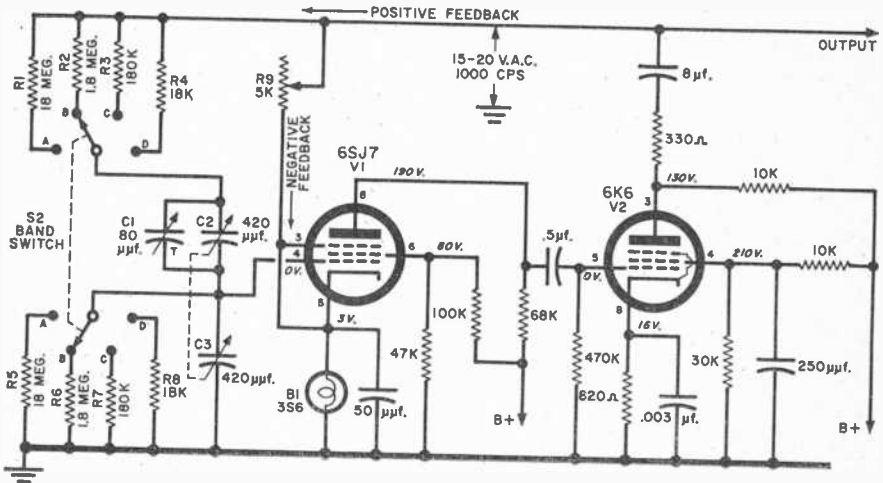
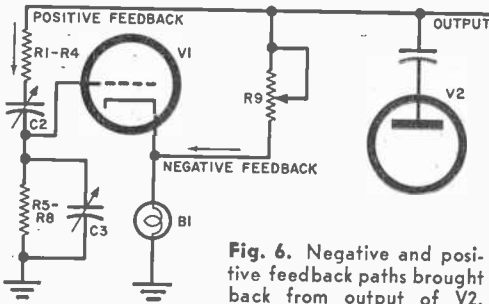

Fig. 5. Wien bridge section of the EICO audio generator.
Fig. 6. Negative and positive feedback paths brought back from output of  $V2$ .
The Wien bridge portion of the Model 377 is shown in Fig. 5. Probably the first thing that will strike you is how much more complicated this schematic appears than the circuit of Fig. 3. There are several reasons for this complexity aside from the fact that pentodes are used instead of the triodes shown in our theoretical circuits.
The eight resistors and three variable capacitors grouped around bandswitch  $S2$  (at the left of the schematic) are all part of the frequency-determining network. Resistors  $R1$  to  $R4$  in Fig. 5 correspond to  $R1$  in Fig. 3, and variable capacitor  $C2$  in Fig. 5 corresponds to  $C1$  in Fig. 3. By the same token,  $R5$  to  $R8$  corresponds to  $R2$ , and
$C3$  corresponds to  $C2$ . Trimmer capacitor  $C1$  in Fig. 5 has the job of adjusting for any differences in capacity that may exist between the sections of the two-gang capacitor  $C2/C3$ .
**Negative Feedback and AGC.** Two other components in Fig. 5 deserve special mention. Potentiometer  $R9$ , which is connected from the feedback line to the suppressor grid and cathode, puts a certain amount of negative feedback into the act. See Fig. 6.
If you're wondering why the Wien circuit is referred to as a bridge, Fig. 7 (a redrawn version of Fig. 6) should answer the question.